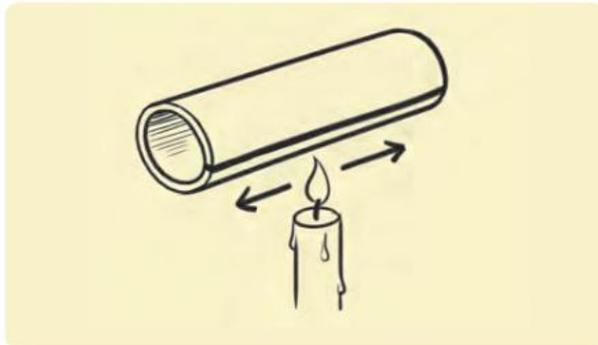

Figure 10.10 Applying heat to PVC pipe
- 3 Apply heat at the centre of the of the cut PVC pipe as shown in Figure 10.10. You can use a primus, stove or candle as your source of heat. Another way to flatten a round PVC pipe is by using hot water. Check with your teacher if you wish to use this method.